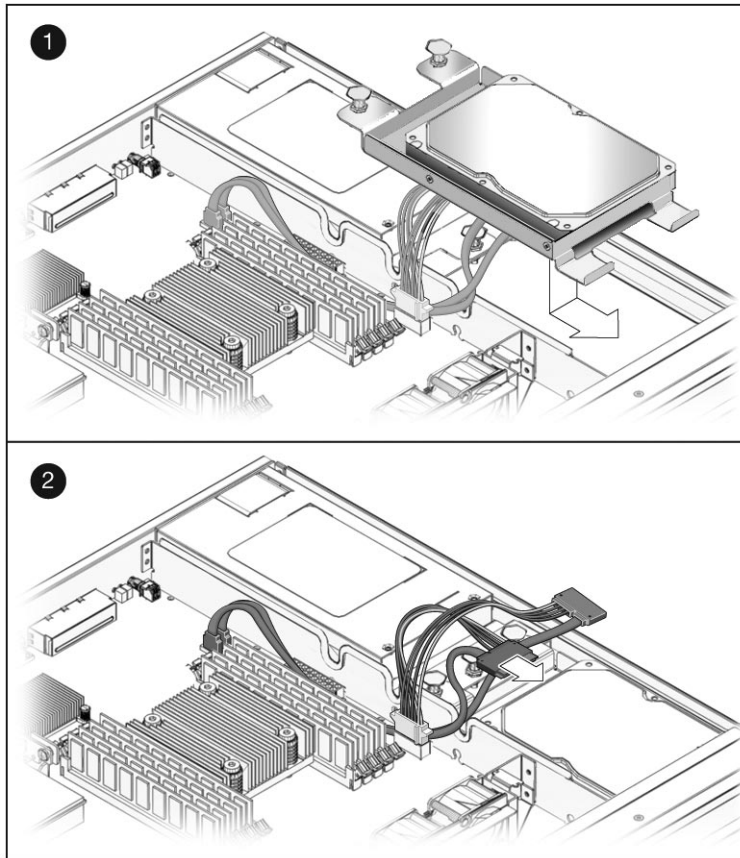

FIGURE 5-10 Installing the Single-Drive Assembly
2. Slide the single-drive assembly into the chassis until it mates with the front of the chassis (FIGURE 5-10).
5. Reconnect the data cable to the data/power connector on the drive (FIGURE 5-10).